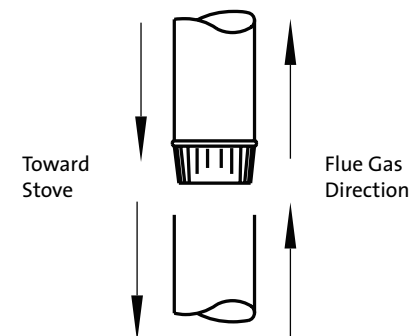

Figure 6.
- Each connector section must be oriented with the male (crimped) end pointing toward the stove. See **fig. 6**.